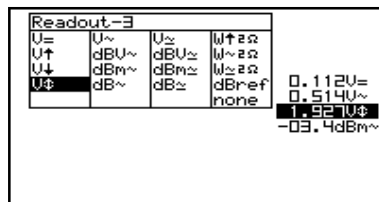

Fig 23
6. Press the cursorkeys to highlight the desired readout function for meter 3 readout. (Fig. 23)